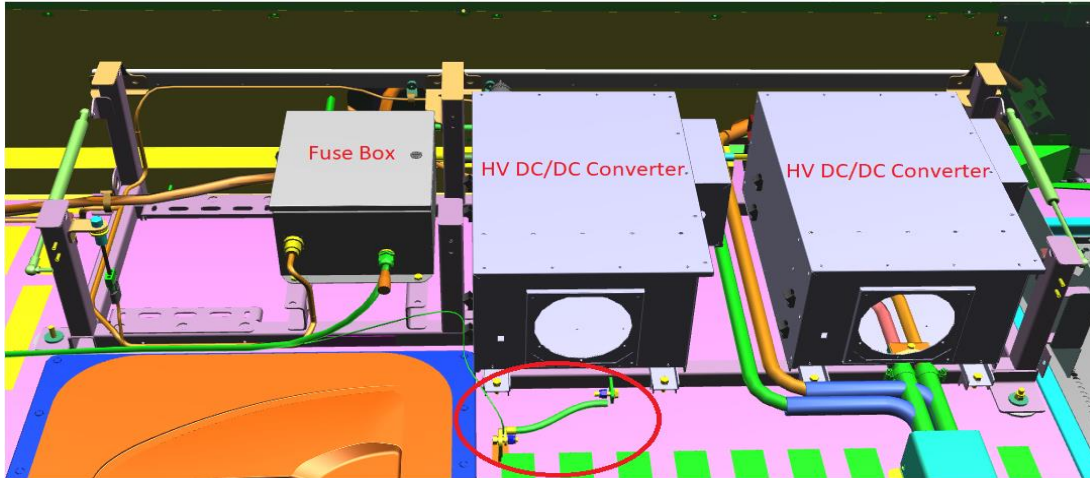

Figure 14: DC/DC Converter Rack Roof Location. Cover removed for clarity.
54. Verify the chassis connection circled in Figure 14 is clean to bare metal and torqued to 17 FT-LBS.